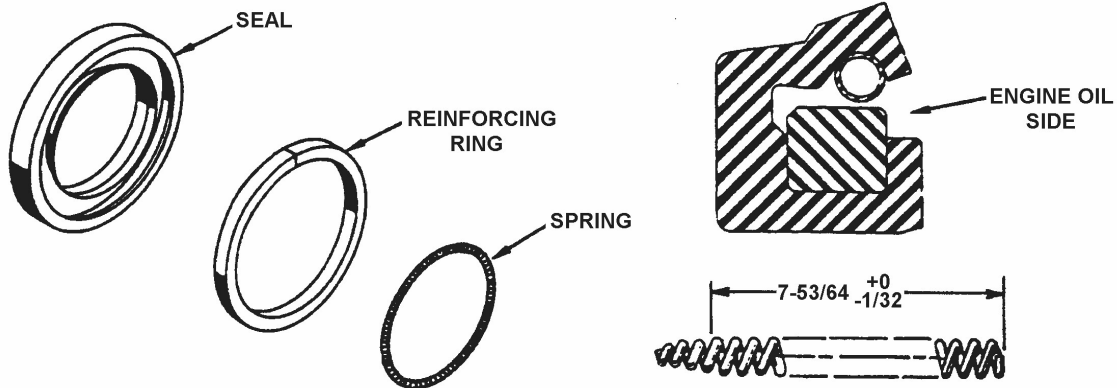

Figure 10-43. Crankshaft Nose Oil Seal Parts
7. Remove the crankshaft nose oil seal, reinforcing ring (if used), and spring as shown in Figure 10-43). Gentle force may be required to remove the nose oil seal parts from the counterbore.
4. Verify the seal spring length is 7.80" to 7.83" as illustrated in Figure 10-43. If the spring length is not within this tolerance, replace it.